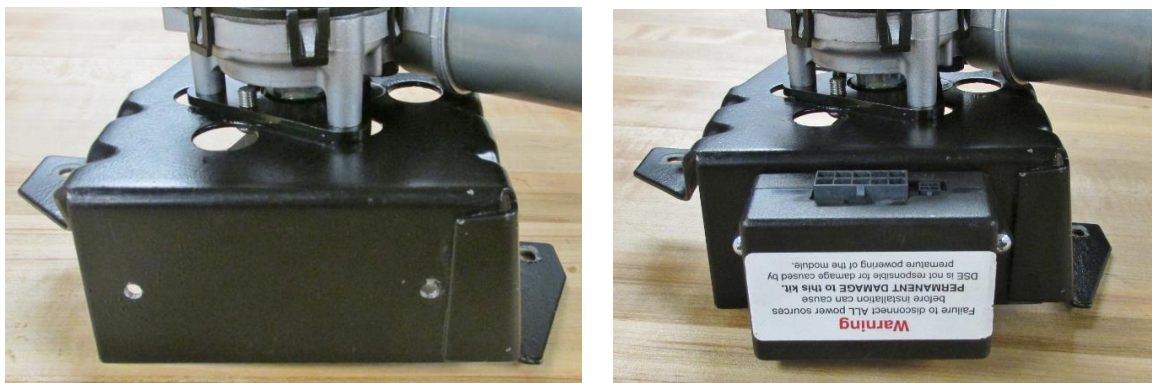

Figure 7 - Mount the Wiper Control Module
11. Drill two holes with a 1/4" drill bit at the locations marked in the previous step. Use the provided 8-32 hardware to mount the module to the bracket (Figure 7). **NOTE:** Make sure the connectors are facing away from the mounting flange of the factory bracket.